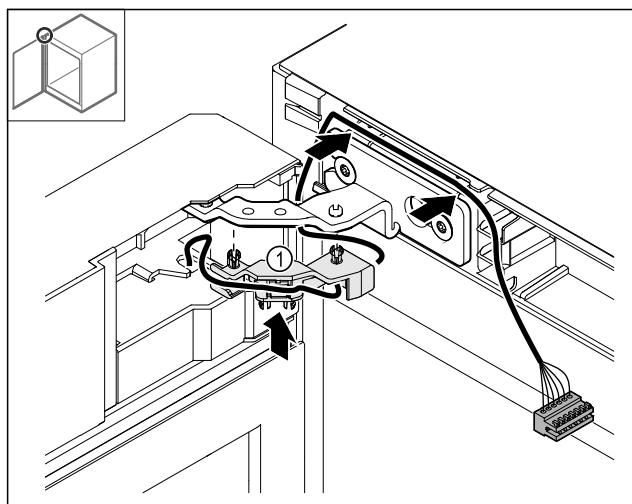

Fig. 44
- ▶ Push the cable holder Fig. 44 (1) into the hinge.